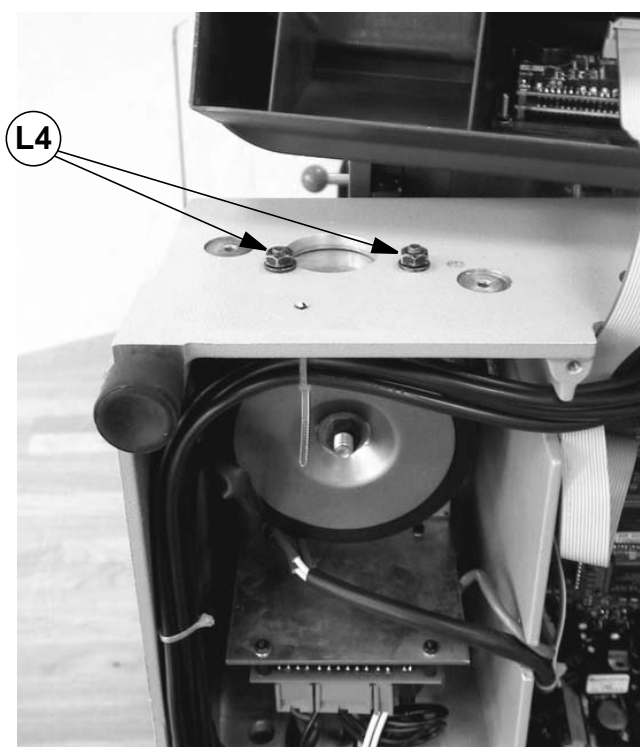

Fig. 49
- 5) loosen the 2 fixing screws (L4) (fig. 49, page 81) and remove the transformer support plate.
- 6) disconnect the bottom axis (Y) sensor from the circuit board.